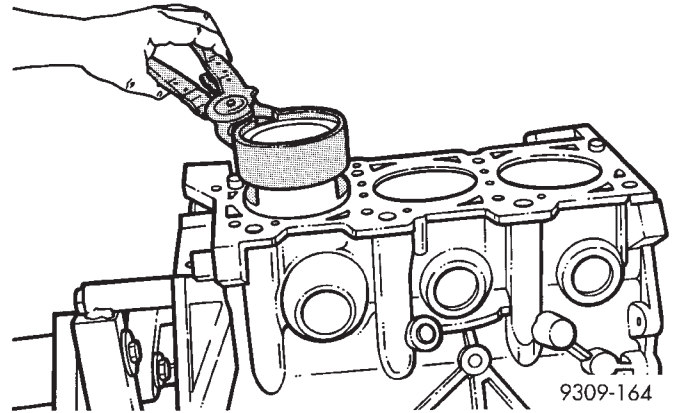

Fig. 94 Piston—Installation
(3) Immerse the piston head and rings in clean engine oil, slide the ring compressor, over the piston and tighten. **Be sure position of rings does not change during this operation.**
(4) Install connecting rod bolt protectors on rod bolts.
(5) Rotate crankshaft so that the connecting rod journal is on the center of the cylinder bore. Insert rod and piston into cylinder bore and guide rod over the crankshaft journal.
(6) Install the piston and connecting rod assembly with the directional letter is located on the top of the piston with the arrow facing toward the camshaft sprocket.
(7) Tap the piston down in cylinder bore, using a hammer handle. At the same time, guide connecting rod into position on connecting rod journal (Fig. 94).
(8) Install rod caps. Install nuts on cleaned and oiled rod bolts and tighten nuts to 52 N·m (38 ft. lb.).